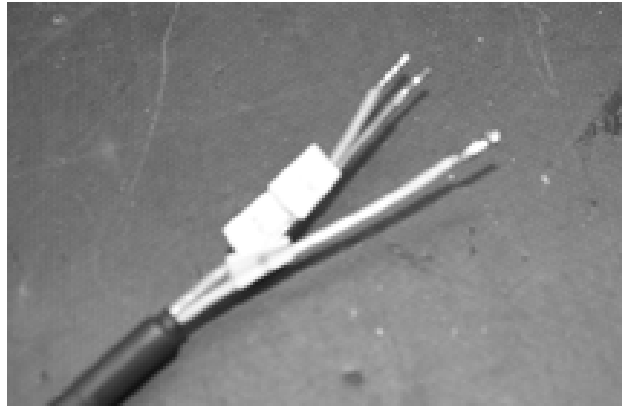

Figure 3. Tinned Wire Ends
3. Strip the wire insulation on DC power supply 1/4" on all ends, Figure 3.
4. Tin the end of the wires to prevent fraying as shown in Figure 3.